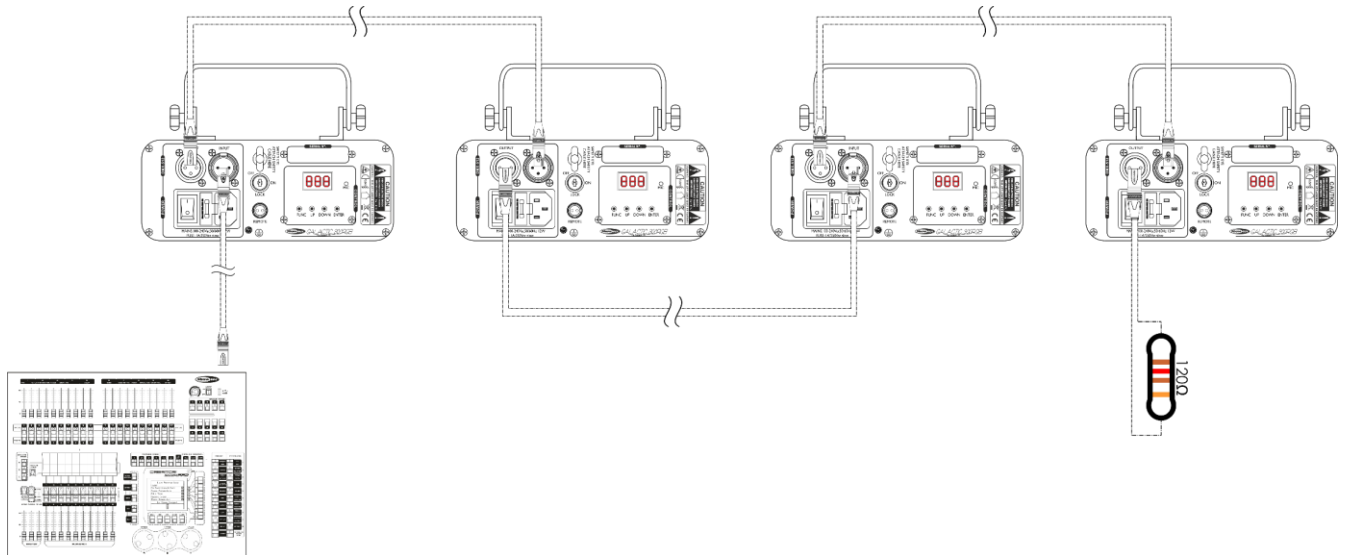

Fig. 04
- 05) Link the units as shown in Fig. 04, Connect a DMX signal cable from the first unit's DMX "out" socket to the second unit's "in" socket. Repeat this process to link the second, third and fourth unit.